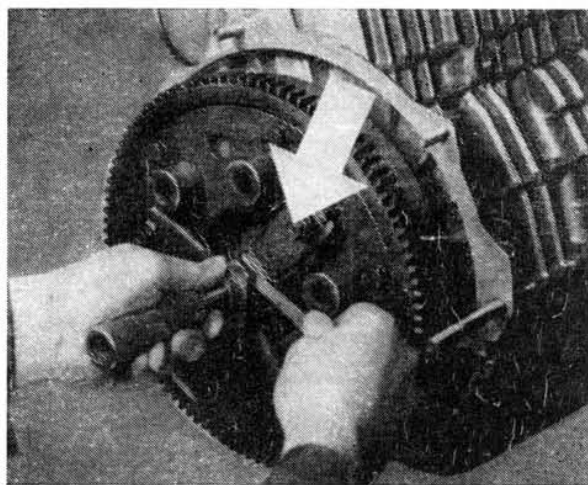

Fig. 3.2/1 - Checking Adjustment of Clutch Release Levers Using Checking and Centering Fixture
1. Thread the MP 2-102 centering arbor through the clutch, fit the friction plate on it with the shorter part of the splined hub for the flywheel engaging into the bearing in the crankshaft, and centre the clutch in the flywheel gear ring - see Fig. 3.2/1. Turn the clutch to align the centre marks provided on the clutch cover and the flywheel before the clutch removal. A new or any other clutch can be installed in any arbitrary position.